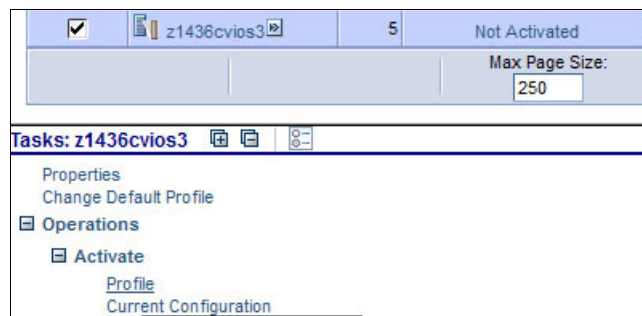

Figure 3-1 Activating the VIOS partition
1. On the HMC GUI, activate the VIOS partition by selecting the partition and clicking **Activate** → **Profile**, as shown in Figure 3-1.